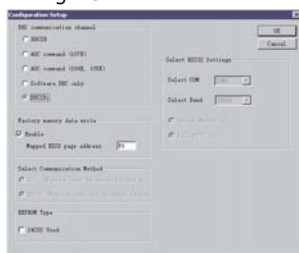

Fig. 19
1. Click icon as shown in Fig. 18 from the tool bar to bring up the Channels "Configuration Setup" windows as shown in Fig. 19.
2. Select the DDC2Bi as the communication channel. As shown in Fig. 19.